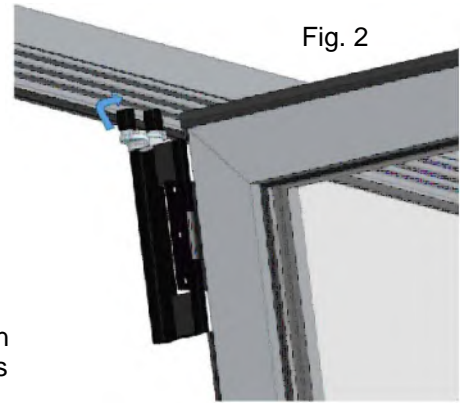

Fig. 2
**b)** Align the top guide of Door 2 and locate it in the middle channel of the top track (Fig 2).